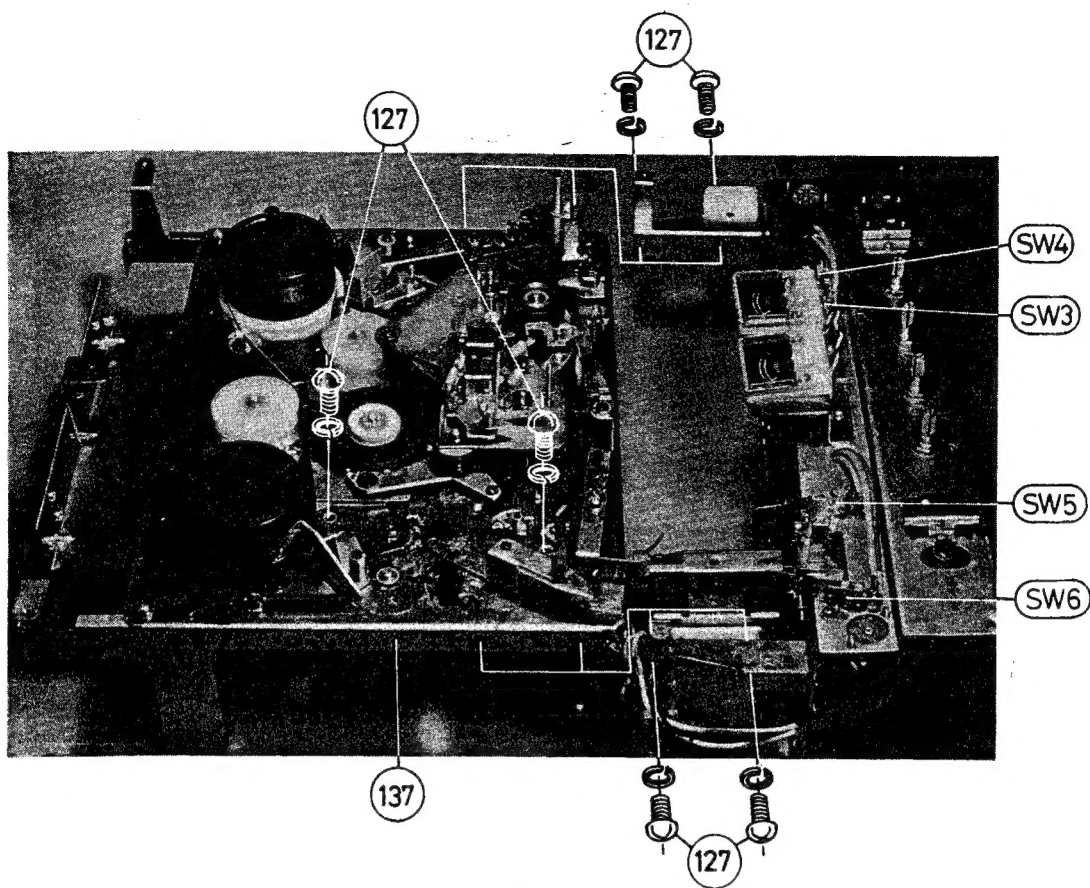

Figure 8
FUNCTION OF LEVER SWITCHES (Refer to Figure 8 and Schematic Diagram)
AMPLIFIER CHASSIS ASSEMBLY REMOVAL (Refer to Figure 8, Figure 10)
2. Remove the 2 SCREWS (127) on the MECHANISM CHASSIS (137). (Refer to Figure 8)
3. Remove the 4 SCREWS (127) both sides of the MECHANISM CHASSIS (137).